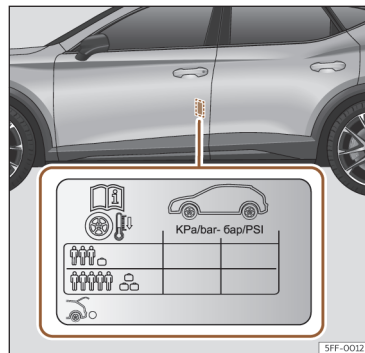

Fig. 230 Location of the tyre pressure sticker.
- Adjust tyre pressure to the load being carried by the vehicle >>> **Fig. 230**.
The values of the tyre pressure are shown on the sticker label located on the rear frame of the front left door >>> **Fig. 230**.
The tyre pressure must be adjusted according to the load the vehicle is carrying. If the vehicle is going to be fully loaded, increase the tyre pressure to the maximum load value shown on the sticker label >>> **Fig. 230**.
In the case of a minimised temporary spare wheel (125/70 R16 or 125/70 R18) inflate to a pressure of 4.2 bar as indicated on the tyre pressure label >>> **Fig. 230**.
- The driver is responsible for ensuring that all of the vehicle tyres are correctly inflated to the right pressure. The recommended tyre pressure is indicated on the label >>> **Fig. 230**.
- Tyre pressure should be that indicated on the label when the tyres are cold at all times >>> **Fig. 230**.